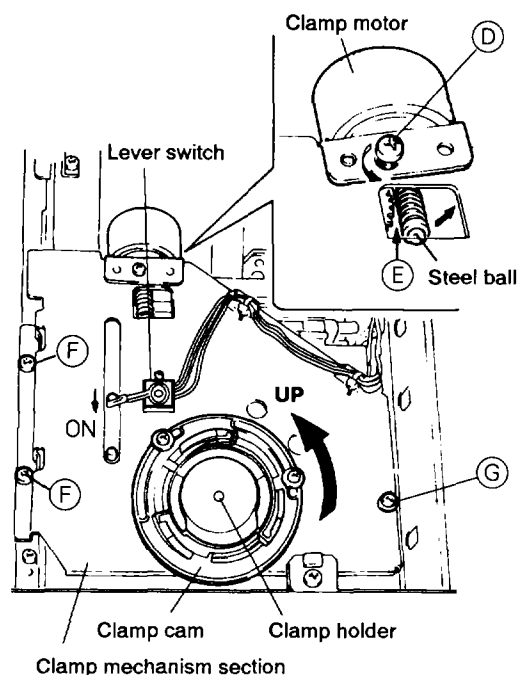

Fig. 3
Note 1 : How to open the tray manually (Fig. 3)
• Disassembling the Tray Section (Fig. 3 and 4)
2. Remove the two screws (F) and a screw (G) fixing the clamp mechanism section and remove by turning over the clamp mechanism section. (Fig. 3)